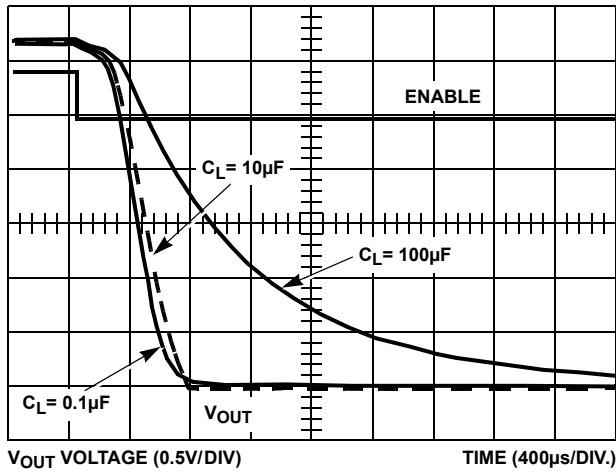

FIGURE 8. SLOW TURN-OFF vs  $C_L$ ,  $R_I = 8\Omega$
The ISL6118 has two shutdown modes. When disabled with a load current less than the current regulation (CR) level the ISL6118 shuts down in a controlled manner using a 500nA constant current source controlled ramp. When disabled during CR or if the timer has expired the ISL6118 quickly pulls down the output thereby quickly removing the faulted load from the voltage bus. See Figures 8 and 9 for illustrative waveforms of each shutdown mode.